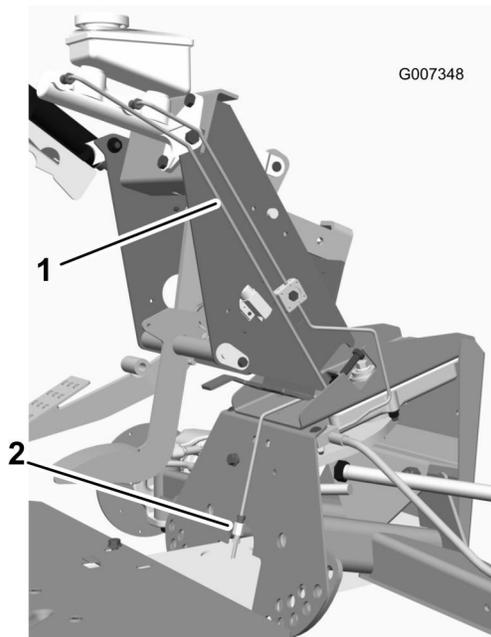

Figure 12
4. Install the rear brake line (104-6793) to the master cylinder in the position shown in Figure 12.
- 7. Use a union (87-3570) to attach the front end of the center brake line to the rear brake line coming down from the master cylinder (Figure 12).